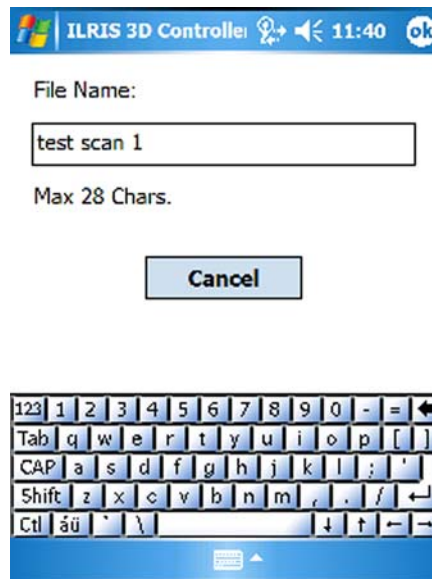

Figure 53: Naming your scan
1. From the Scan window, tap the **Change** button to rename your scan. The File Name window appears (Figure 53).